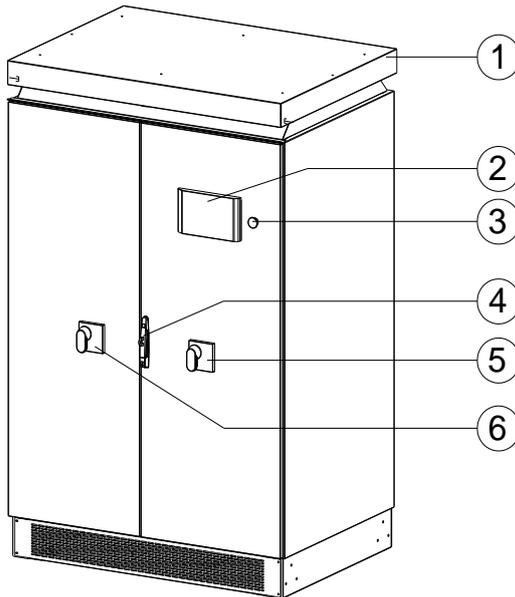

Figure 2-3 Appearance sketch of CPS SC100KT-O/US-480
**Description of main components (shown in Figure 2-3):**